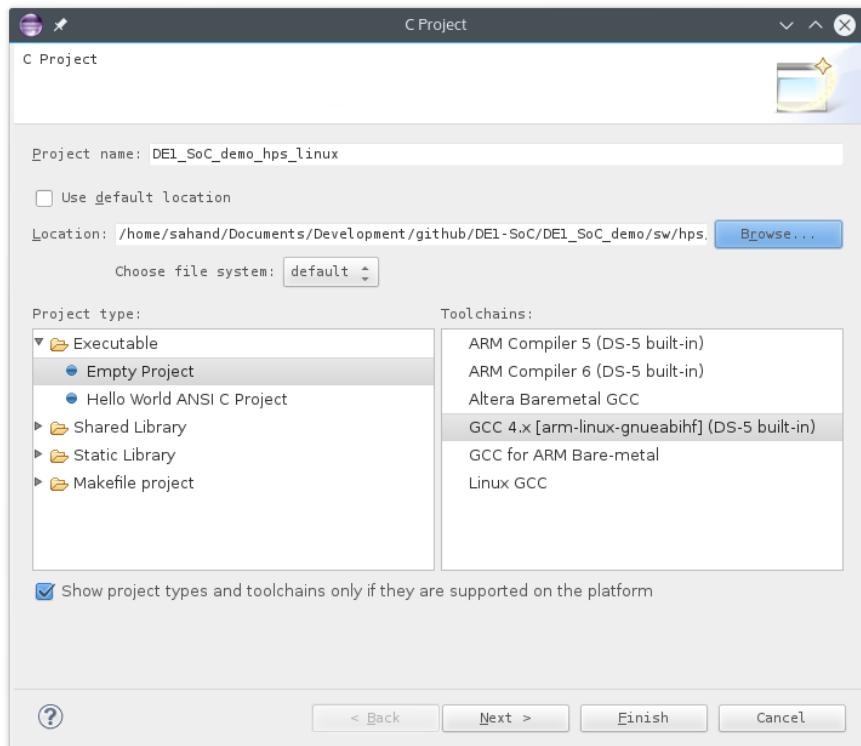

Figure 13-1. New C Project Dialog
- f. You should have something similar to Figure 13-1. Then, press the “Finish” button to create the project.